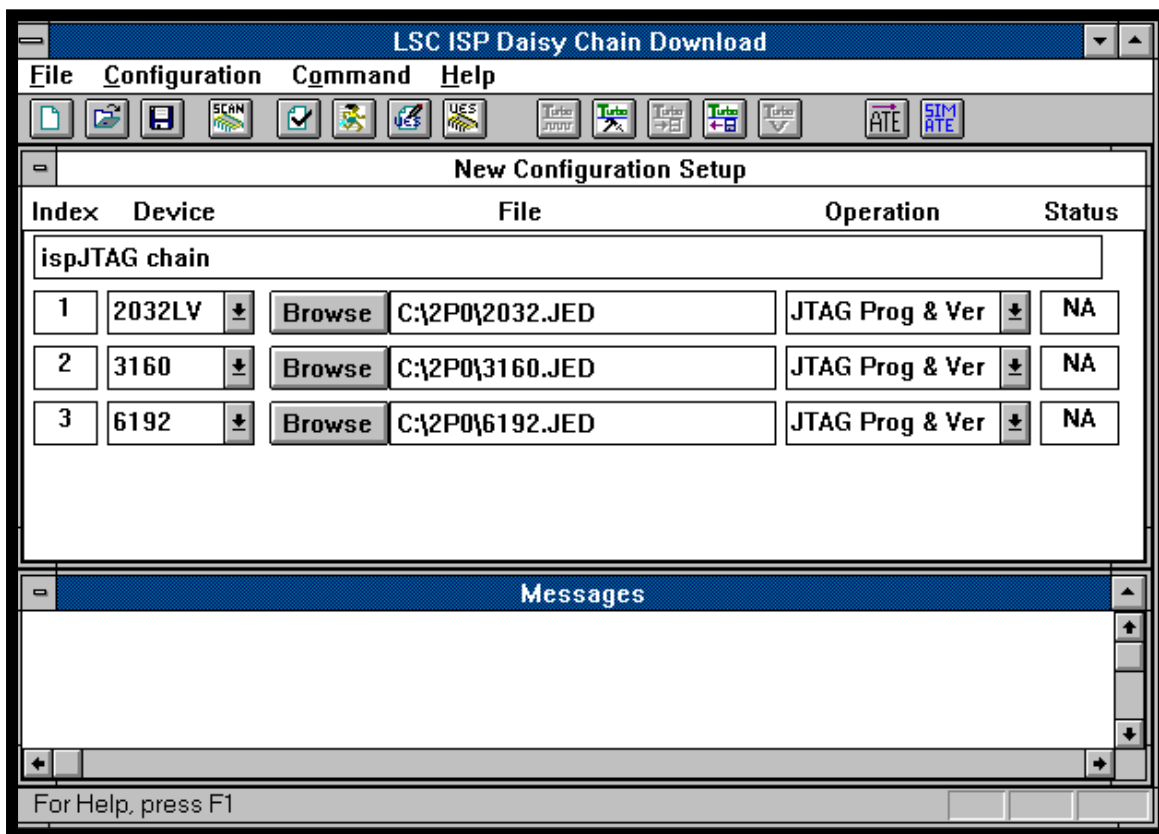

Figure 3-8. An ispJTAG Chain and JTAG Device Selected
4. Enter the file name or select **Browse** to find a file. Make sure your choice is highlighted and choose **OK**. The Browse dialog box closes and the file name you chose appears in the Configuration Setup dialog box for that device (Figure 3-8).